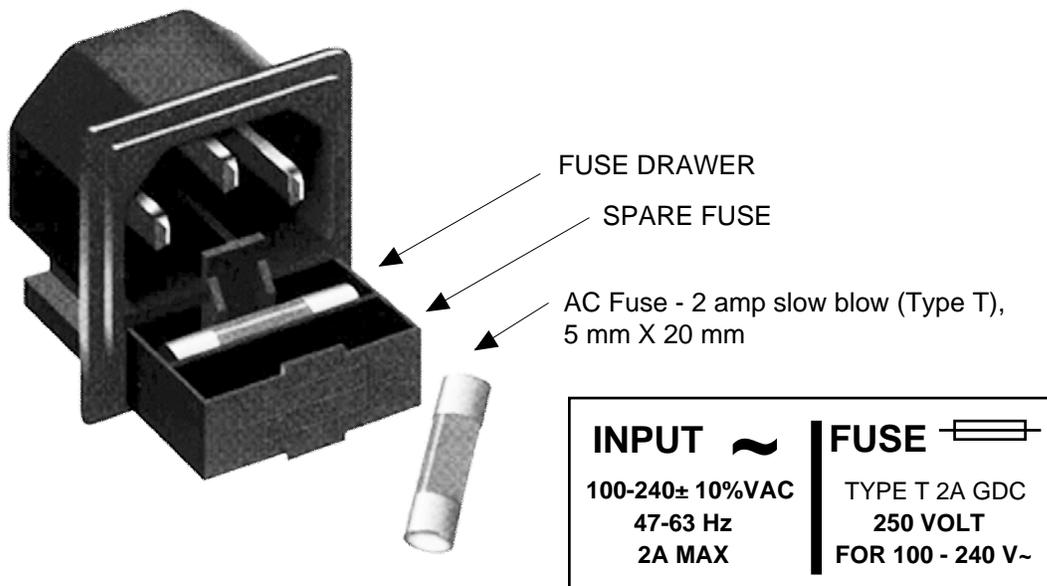

FIGURE 2.4 Fuse Location and Spare Fuse
1. Connect a -20 dBm to 0 dBm signal to L-BAND INPUT, (Figure 2.4).